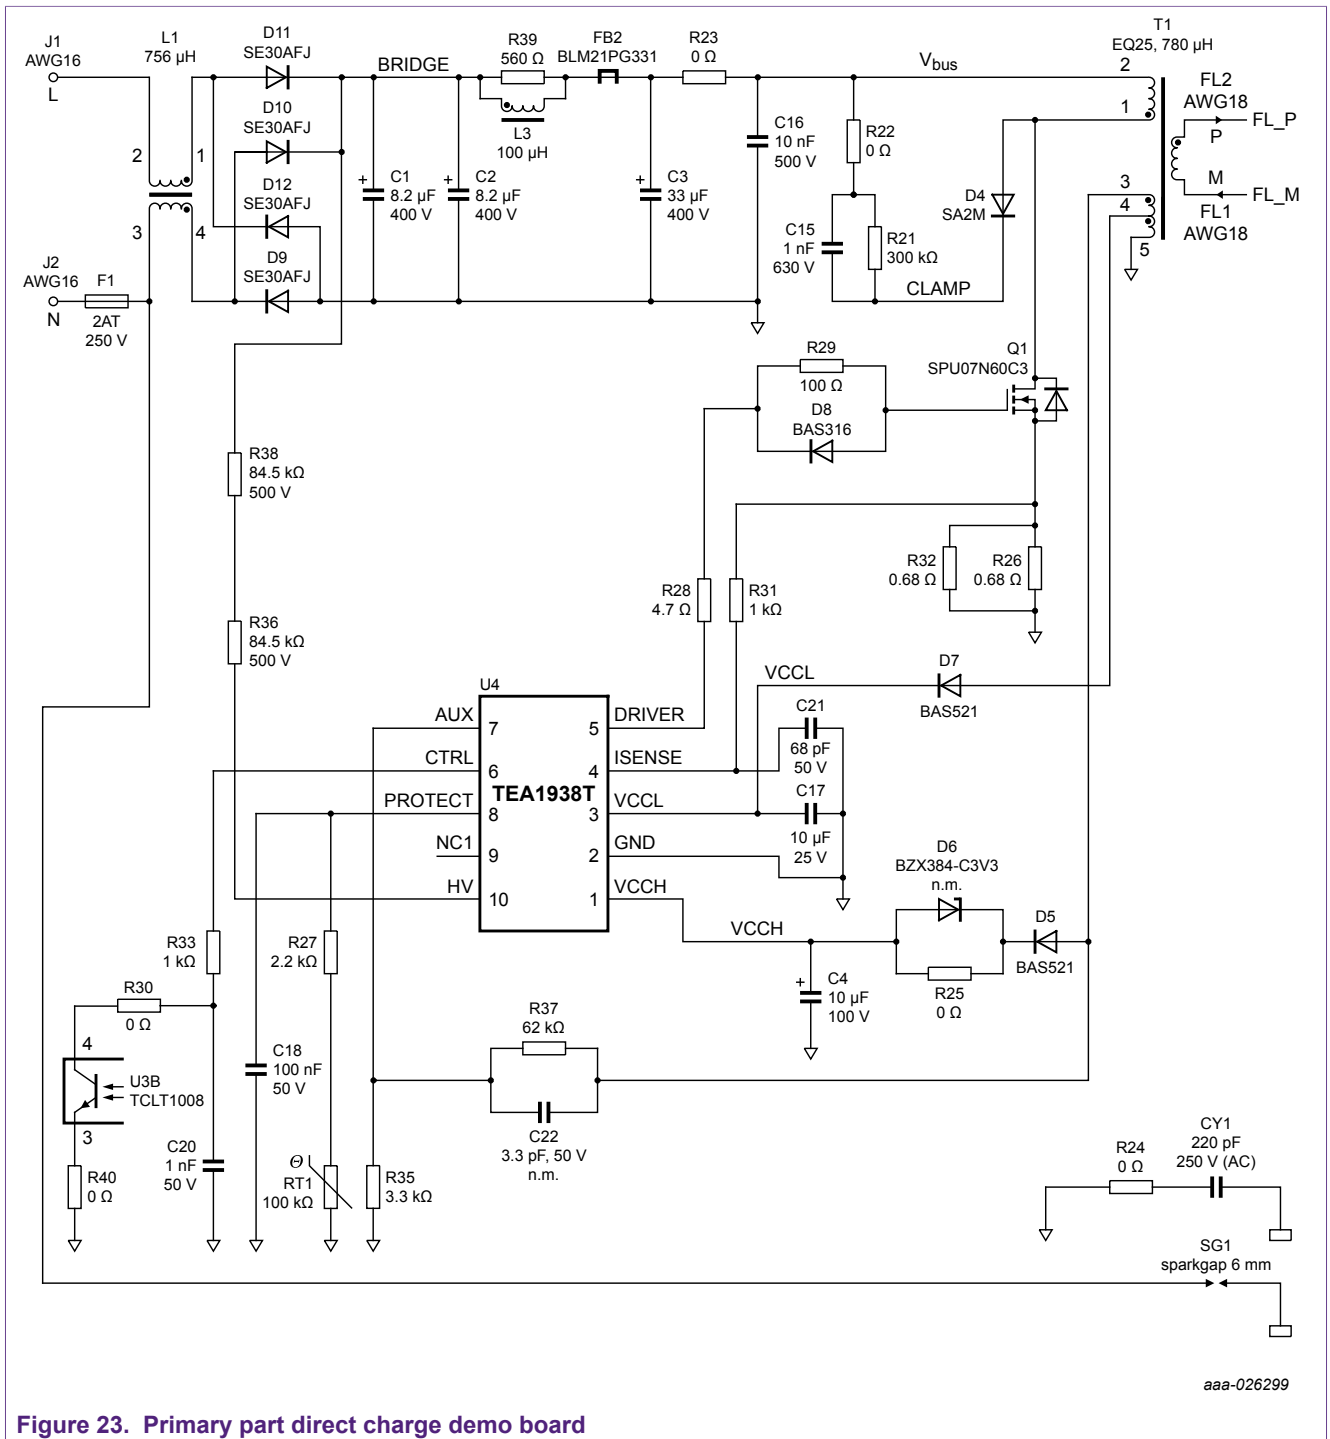

Figure 23. Primary part direct charge demo board
The circuit design is discussed using the schematic of a fast charge demo board. The board is designed to deliver output voltages of 5 V (DC), 9 V (DC), and 12 V (DC). The maximum output current is 2.1 A for all output voltages. Figure 23 shows the schematic.
A resistive divider is connected to the AUX pin. The top of the resistive divider must be connected to one of the auxiliary windings, which provide the IC supply. In Figure 23, the signal that feeds to the AUX pin comes from the VCCH auxiliary winding. In that case, resistor R37 must be redimensioned accordingly. This resistor determines the mains compensation for the OPP level. The resistive divider and resistor R35 set the level for OVP (see Section 3.7 for details).